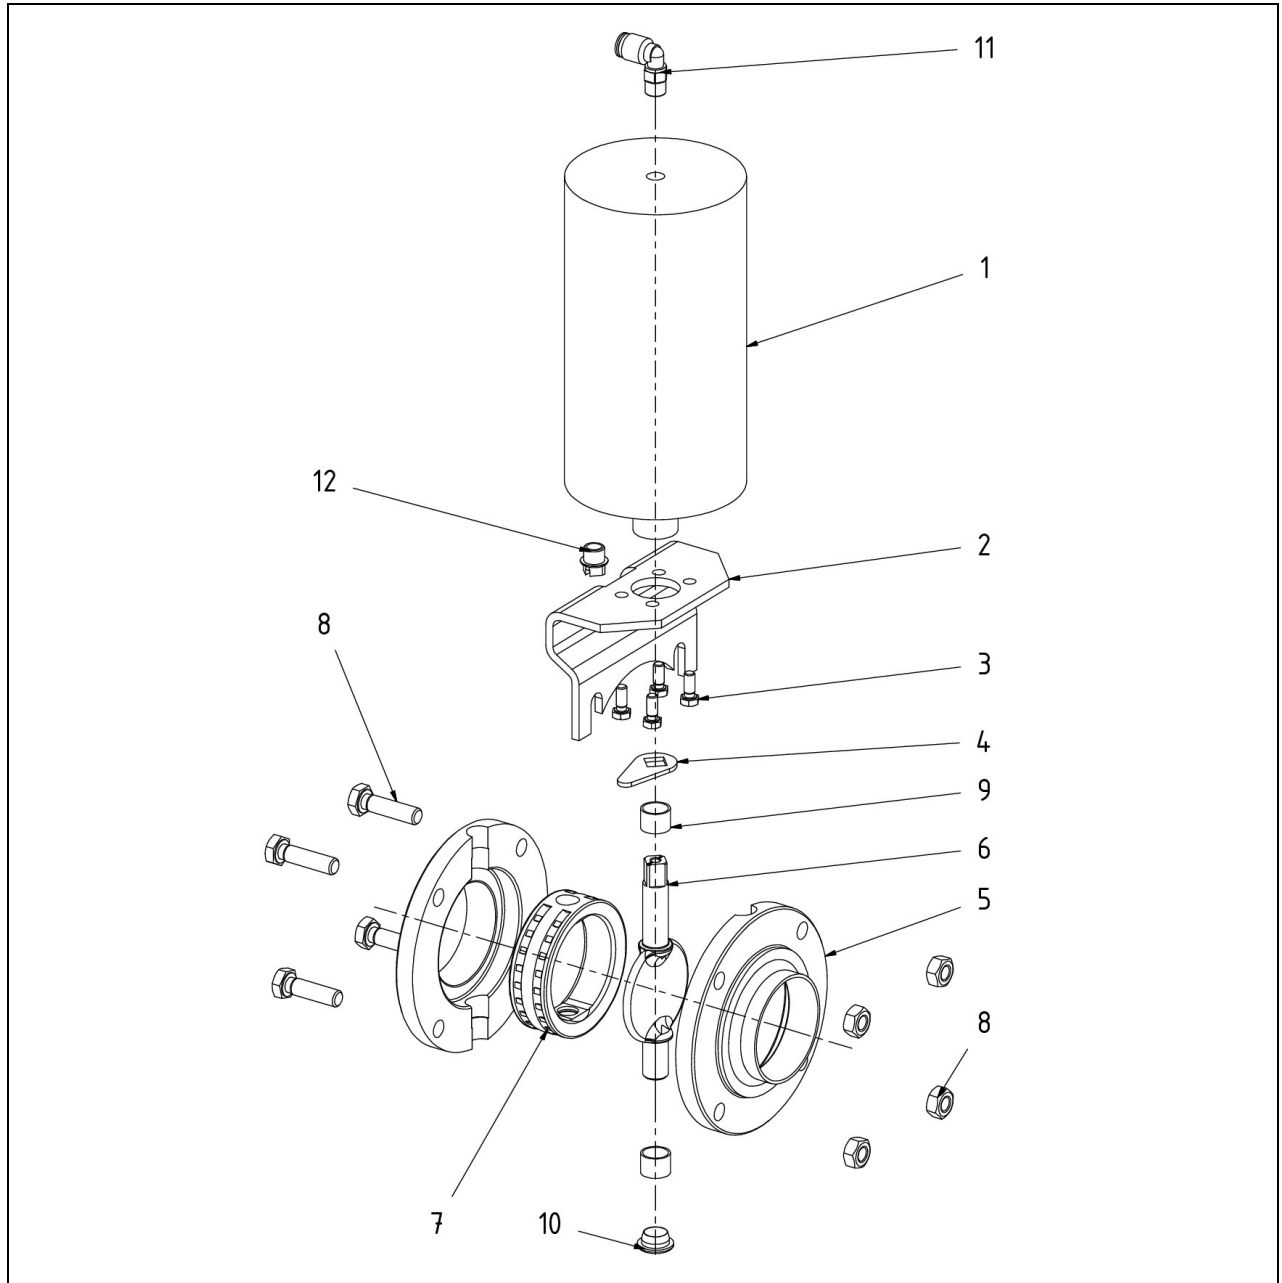

Fig. 6.3: Structure of Butterfly Valve with pneum. Actuator
- Disconnect the compressed air connection (Fig. 6.3, item 11) from the pneumatic actuator.
- Remove the bolt group (Fig. 6.3, item 8).
- Pull out the entire “pneumatic actuator with holding bracket” assembly unit (Fig. 6.3, items 1, 2 and 3) in the direction of the axis.
- Pull out the position indicator (Fig. 6.3, item 4) in the direction of the axis.
- Separate the flanges (Fig. 6.3, item 5).
- Remove the valve disc (Fig. 6.3, item 6) together with the gasket (Fig. 6.3, item 7) and bushings (Fig. 6.3, item 9) from the flange.
- Pull the bushings (Fig. 6.3, item 9) off the shafts of the valve disc and pull the short shaft of the valve disc (Fig. 6.3, item 6) out of the hole in the gasket (Fig. 6.3, item 7), and then pull out the long shaft.
- Check the gasket (Fig. 6.3, item 7) for damage.
- Clean the valve disc (Fig. 6.3, item 6) including the shafts, and lubricate the gasket (Fig. 6.3, item 7) in the bearing shaft hole using approved grease (Unisilikon 641, e.g. from Klüber).
- Insert the long shaft of the valve disc (Fig. 6.3, item 6) into the hole in the gasket (Fig. 6.3, item 7).
- Press the gasket (Fig. 6.3, item 7) together and pull it over the short shaft.
- Slide the bushings (Fig. 6.3, item 9) over the shafts of the valve disc (Fig. 6.3, item 6).
- Insert the valve disc (Fig. 6.3, item 6) with the gasket (Fig. 6.3, item 7) on it and the bushing (Fig. 6.3, item 9) the bearing shaft hole on the flange or inner flange (Fig. 6.3, item 5).
- Carefully place the counter flange on the flange without damaging the gasket (Fig. 6.3, item 7).
- Set the valve disc (Fig. 6.3, item 6) to the “Closed” position.
- Place the position indicator (Fig. 6.3, item 4) on the square section of the valve disc (Fig. 6.3, item 6). When doing this, the position indicator must point in the same direction as the valve disc (Fig. 6.3, item 6). Note the direction of rotation of the actuator when installing the position indicator. On “air opening” (standard, clockwise rotation), it rotates to the right as viewed when looking at the square part.
- Place the inner square of the “pneumatic actuator with holding bracket” assembly unit (Fig. 6.3, items 1, 2 and 3) on the square section of the valve disc (Fig. 6.3, item 6), assuring it is aligned properly.
- Place the milled slot in the holding bracket (Fig. 6.3, item 2) onto the upper pair of bolts.
- Tighten the bolt group (Fig. 6.3, item 8) in a crisscross pattern with the correct torque (see table below) and connect the air supply (Fig. 6.3, item 11) to the pneumatic actuator.
- Undo the bolt group (Fig. 6.3, item 8) and realign the holding bracket (Fig. 6.3, item 2). Once this is done, tighten the screws again.
- Undo the M5 hexagon bolts (Fig. 6.3, item 3) and realign the holding bracket (Fig. 6.3, item 2). Once this is done, tighten the screws again.